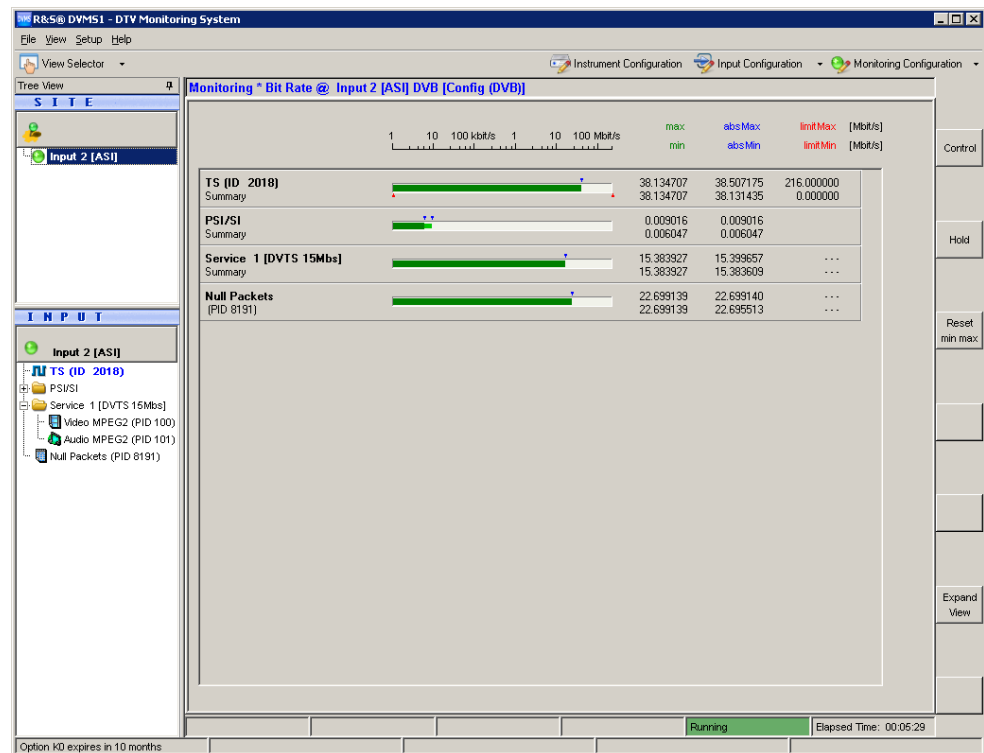

Fig. 6-2: Monitoring view
6. In the "TS (ID XXXX)" line, "max/min" column, read the current net bit rate of the connected TS (in this example, figure 6-2, XXXX = 2018).